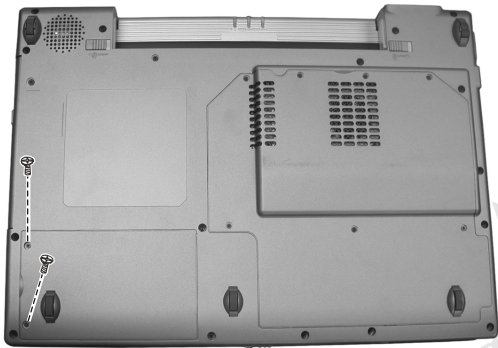

Figure 2-7 Remove the HDD compartment cover
2. Remove the two screws fastening the HDD compartment cover. (Figure 2-7)